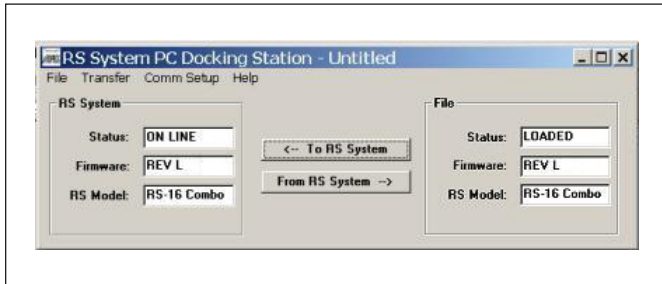

Figure 7. Transfer Complete Status in Main Dialog Box
- When the data transfer is complete, click **OK**. The PC Docking application opens and reports that the data is loaded as shown in the dialog box in Figure 7.